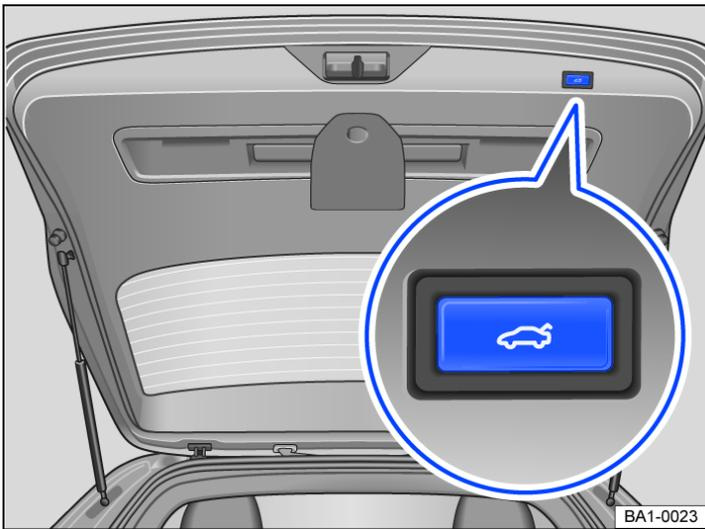

Fig. 2 In the open boot lid: button for closing the boot lid electrically.
- Press the button in the open boot lid → Fig. 2.